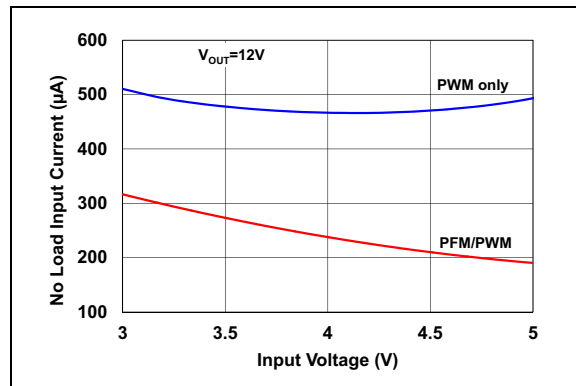

FIGURE 2-8: No Load Input Current, I_{IN0} vs. V_{IN} ($EN = V_{IN}$).
- I_{IN0} varies with input and output voltage and input capacitor leakage (Figure 2-8). I_{IN0} is measured on the V_{IN} pin when the device is switching (EN = V_{IN}), at no load, with R_{TOP} = 180 kΩ and R_{BOT} = 20 kΩ.
- 2:** I_{IN0} varies with input and output voltage and input capacitor leakage (**Figure 2-8**). I_{IN0} is measured on the V_{IN} pin when the device is switching ($EN = V_{IN}$), at no load, with $R_{TOP} = 180\text{ k}\Omega$ and $R_{BOT} = 20\text{ k}\Omega$.